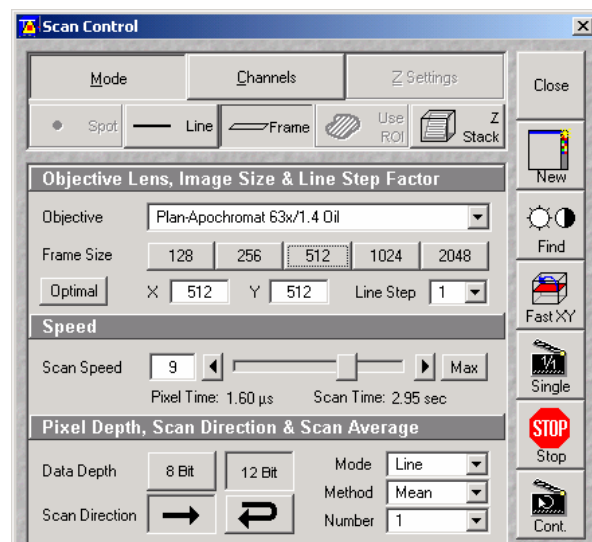

Fig. 16 Scan Control window, Mode settings
- Click on the **Scan** button in the **Acquire** subordinate toolbar to open the **Scan Control** window (Fig. 16).
- Use the slider in the **Speed** panel (Fig. 16) to adjust the scan speed.
- Select the dynamic range 8 or 12 Bit (per pixel) in the **Pixel Depth, Scan Direction & Scan Average** panel (Fig. 16).